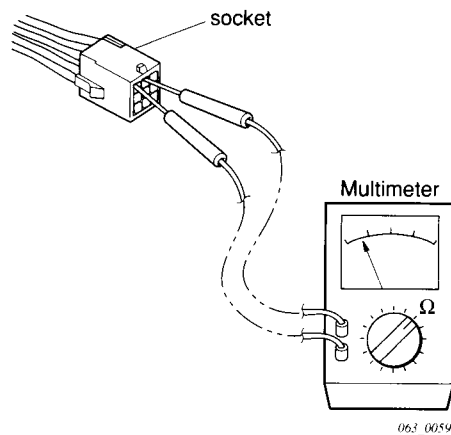

Fig. 31
(2) Checking of Protective Devices
- Then check continuity among plug's (and/or socket's) terminal as in **Fig. 31**.